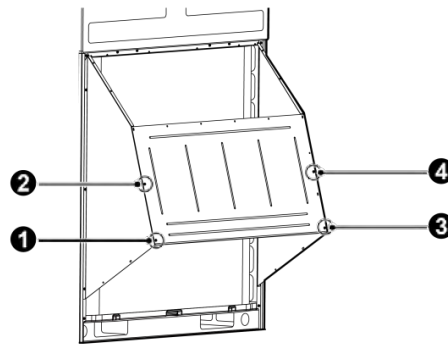

Fig. 3.36
Step 2: installation of Rear Plate 4. Please refer to Fig 3.36 for the installation location and sequence of screws.